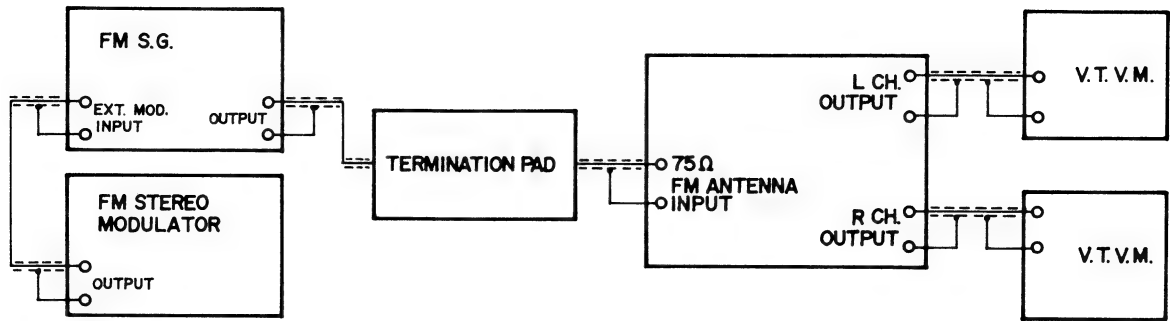

Fig. 12
- 1) Connect the various measuring instruments as shown in Fig. 12.